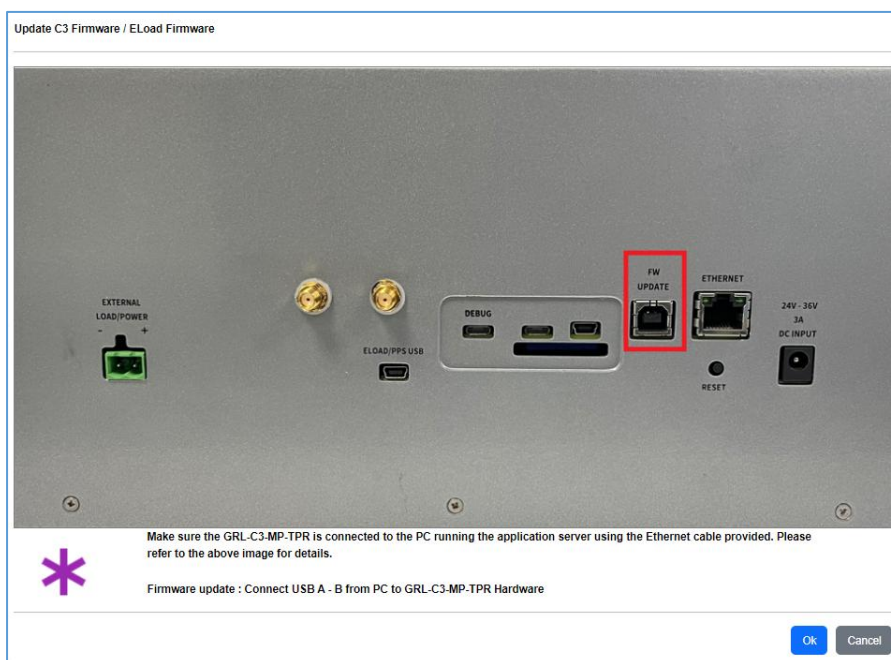

FIGURE 7.4: UPDATE GRL-C3-MP-TPR FIRMWARE– #1
1. Click on the **Update Firmware** button and the following pop-up message will appear (Figure 7.4 below).